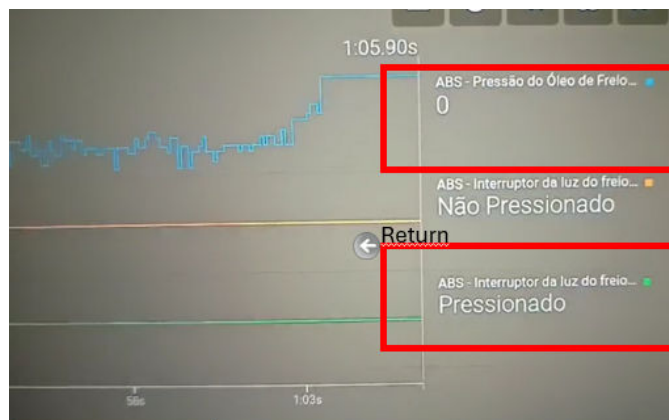

Fig. 7
16. Check the residual brake pressure again Fig. 7 by monitoring through the graphs the behavior by slowly stepping on the brake pedal, when activating the first stage of the switch the pressure should be less than or equal to 4 Bar (H1/ M1 / N4) and 6 Bar (B1) or less than or equal to 6 Bar (Renegade).